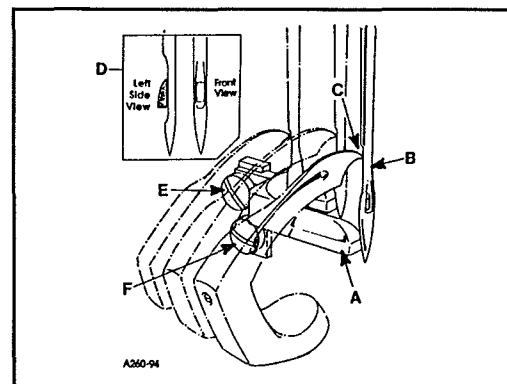
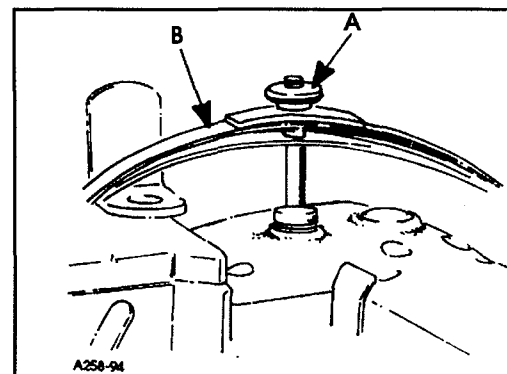
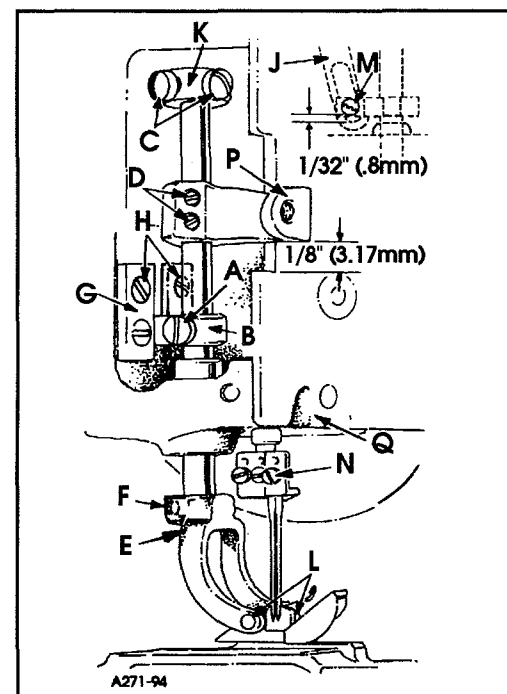

FIG. 13
FIG. 14
FIG. 15
Set the rear needle guard (A, Fig. 13) horizontally so that it barely contacts needles (B) when at its extreme forward position. If adjustment is necessary loosen screw (E) and move guard front to back as required. It should be set vertically as low as possible, yet have its guarding surface in contact with the needles until the points of the loopers (C), moving to the right, are even with the right side of the needles. If adjustment is necessary loosen screw (F) and move guard and holder up or down as required.
**NOTE:** When installing the needle it should be parallel with the eye in line of feed. If adjustment is necessary, loosen screw (N, Fig. 15) in needle head and rotate needle to attain adjustment (D, Fig. 13).
Remove presser bar leaf spring (B, Fig. 14) and nut (A). Loosen screw (A, Fig. 15) on presser bar guide (B). Loosen screws (C) in upper collar and screws (D) in needle lever thread pull-off lever. Slide presser bar upward high enough to slip on presser foot yoke (E) with foot attached and tighten screw (F) on flat of presser bar. Position foot so that the needle holes in the foot line up with the holes in the throat plate. Tighten screw (A)
Reinstall presser bar leaf springs (B, Fig. 14) and nut (A), with presser foot resting on throat plate.
**NOTE:** There should be a minimum  $1/32"$  (.8mm) clearance between screw (M, Fig. 15) and the bottom of the slot in link (J).
Regulate the pressure on the presser foot same as the upper feed roller by turning the presser spring regulating nut (A, Fig. 14) located on top of leaf type spring (B) at the rear of machine.
To remove just the presser foot, remove screws (L, Fig. 15) and replace foot, retighten screws (L).